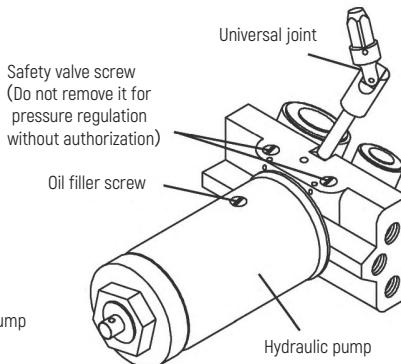

Figure 2
- 1) Loosen the oil filler screw, but do not take out the screw (see Fig. 2) .
- 5) Tighten the oil filler screw (see Fig. 2) .
- 1) Take out the oil filler screw (see Fig. 2) .